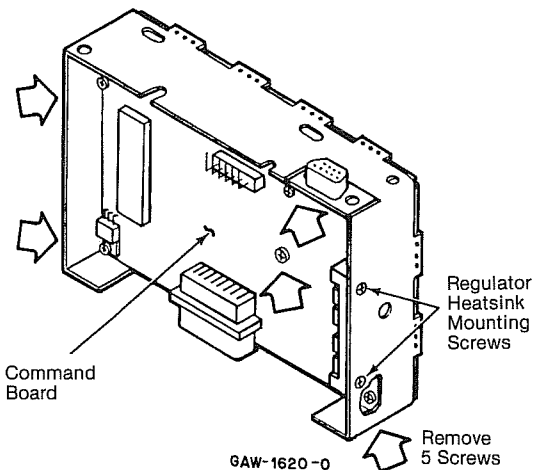

Figure 14
(2) Once the RF board is out, turn the radio over and remove all the command board mounting screws (Figure 14).
(3) Now remove the two regulator heat sink mounting screws from the side of the chassis (Figure 14). You can now lift out the command board.